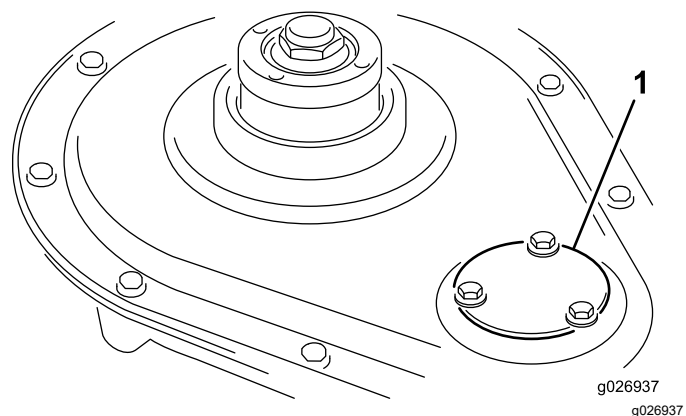

Figure 17
3. Remove the reel pinion cover (Figure 17).